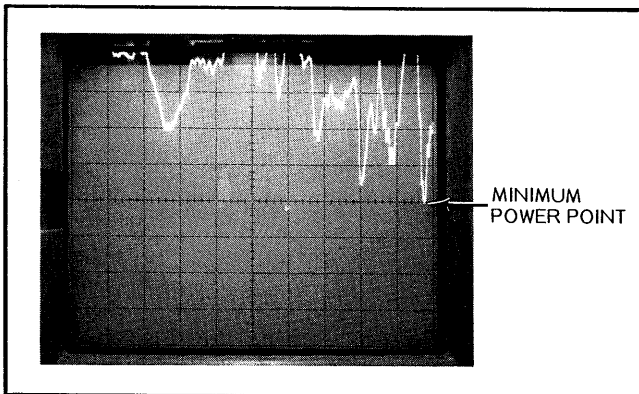

Figure 5-28. Minimum Power Point on Leveled Output Power Signal
2. operate the INCREASE/DECREASE lever to place the minimum-power point of the displayed trace (Figure 5-28) on the center graticule line.